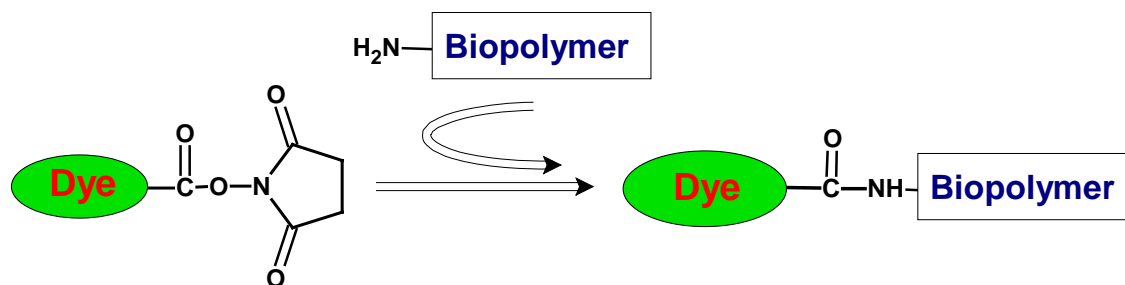

Figure 1. Labeling of an amino group (for instance, a lysine) on a biopolymer (i.e., a protein) with a succinimidyl ester of a dye.
The AnaTagTM HiLyte FluorTM 680 Protein Labeling Kit provides a convenient way to label proteins by using the succinimidyl ester (SE) reactive form of HiLyte FluorTM 680. The succinimidyl ester shows good reactivity and selectivity with aliphatic amines of the protein and forms a carboxamide bond, which is identical to, and is as stable as the natural peptide bond (Figure 1). HiLyte FluorTM 680-protein conjugates can sustain treatments during immunofluorescent staining, fluorescence *in situ* hybridization, flow cytometry and other biological applications without hydrolysis.